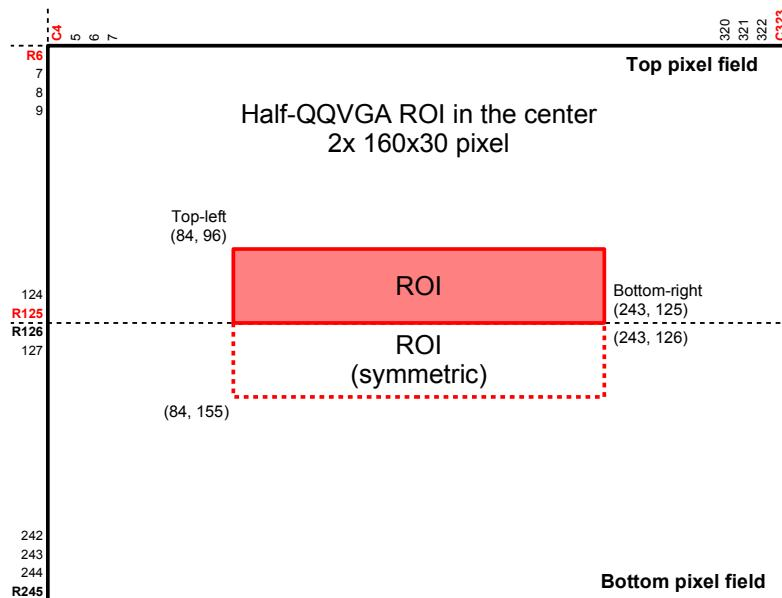

Figure 35: ROI for Half-QQVGA: $2 \times 160 \times 30$ pixel
- 8-bit mode: Transfers the 8 MSB bits of the pixel data with 1x DCLK. Refer to Table 16 and Figure 35.